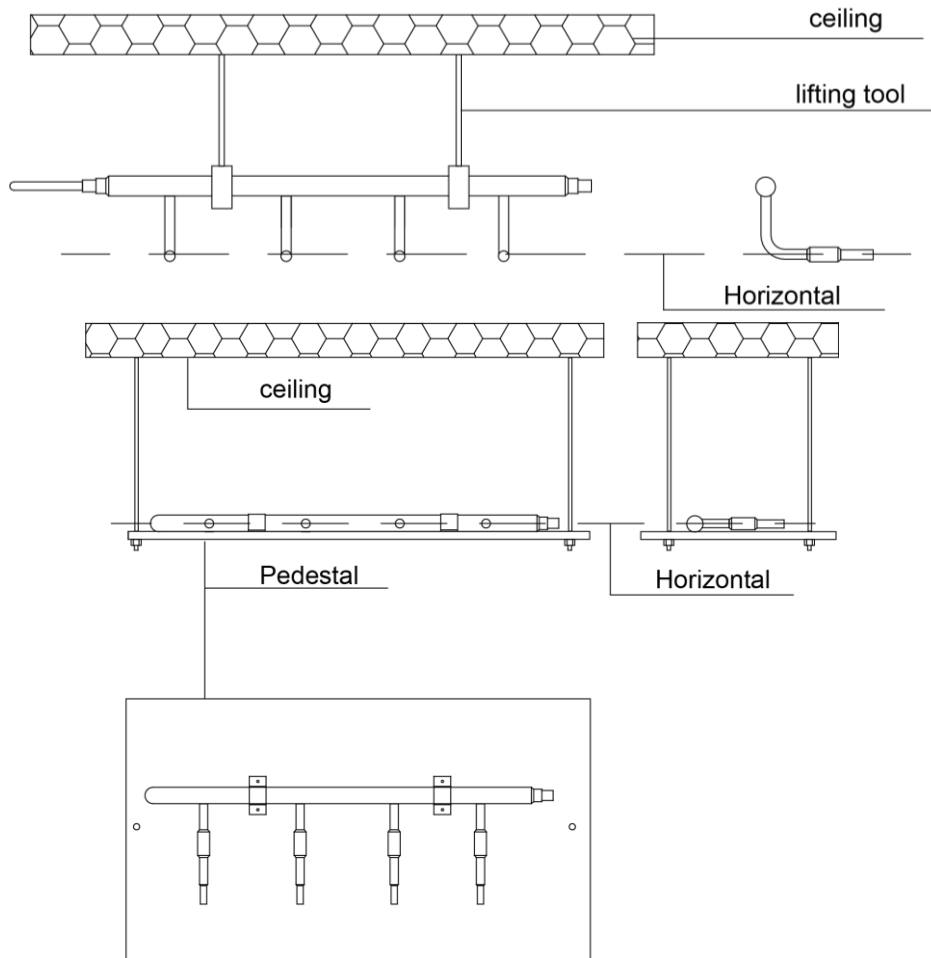

Fig.4.4.7
- (4) Suspend the header to the ceiling, and be sure to install the T-type manifold so that the outlet pipes are horizontal at the lower side. See Fig. 4.4.7.